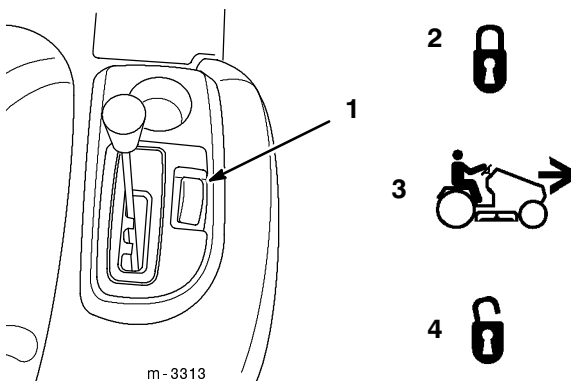

Figure 22
The cruise control is a switch (Fig. 22) on the right fender that maintains a set traction control position without foot pressure. The cruise control only operates when moving forward.
2. While holding your foot steady on the traction control pedal, push the cruise control switch (Fig. 22) to the set position.
- While holding your foot steady on the traction control, move the cruise control switch to the off position (Fig. 22).